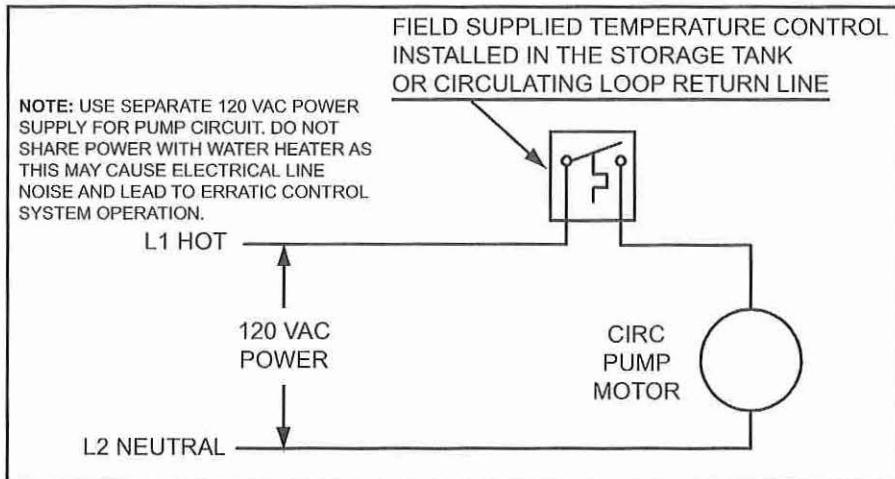

Figure 68
6. If a pump is being installed between a water heater and storage tank or on a building recirculation loop wire according to Figure 68 on page 68.
7. If a pump is being installed in a recirculation loop between the water heater and a commercial dishwasher wire according to Figure 68 or Figure 69 on page 68.